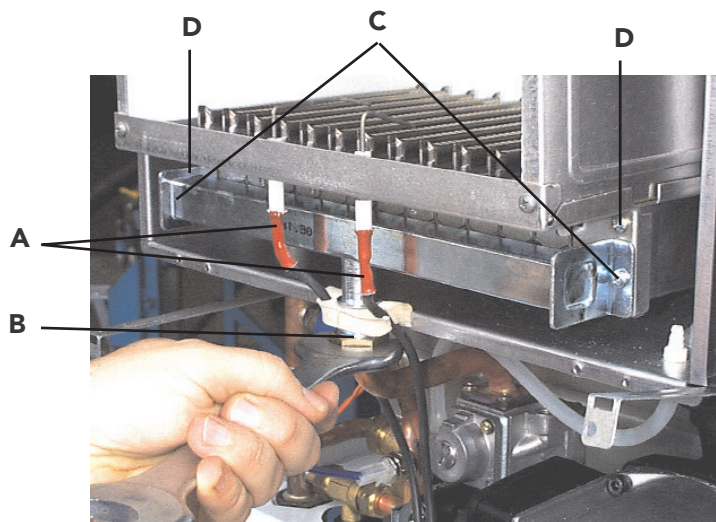

fig. 22
**Removal of burner (fig. 22)**
**Injectors (fig. 22)**